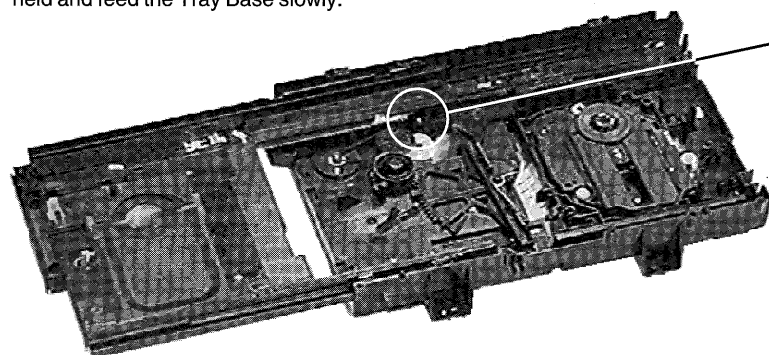

Fig. 1
Move the Slide Plate Lever(1) in the direction of arrow **a** to the position **b** and hold it, then lift up the stopper **c** until the Slide Plate Lever(2) eject out. Now the 3 slide plate will be open as shown in the figure 1 and the traverse unit can be removed.
While holding the Drive Rack and Carrier Lever, install the Tray Base on the Mech Base in the direction of arrow (c) until the Tray Base stops as shown in figure 1. Release only the Carrier Lever and push the Tray Base together with the Drive Rack. After engaging the gear, release the Drive Rack which held and feed the Tray Base slowly.